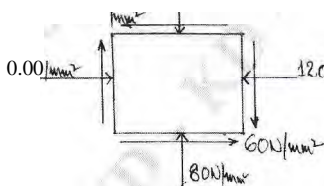

Fig. Q3 (b)
- b. The state of stress in a two dimensionally stressed body is as shown in Fig. Q3 (b). Determine the principal planes, principal stresses, maximum shear stress and their planes. Schematically represent these planes on x-y coordinates: (08 Marks)